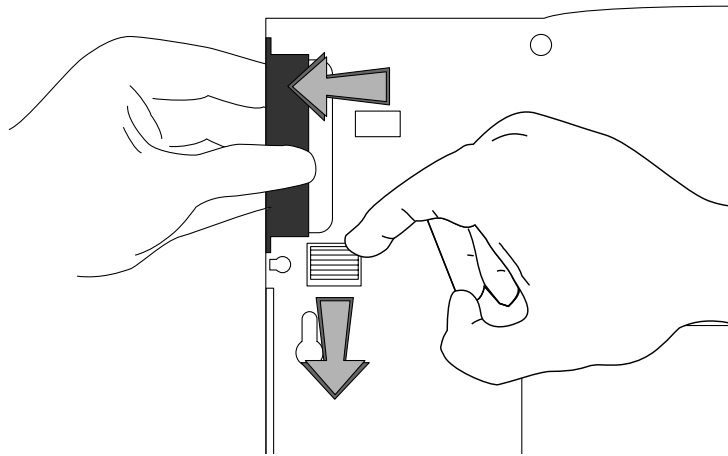

Figure 3-5 Removing the Hard Disk Drive
3. Press the hard disk drive latch (see Figure 3-5) away from the drive.